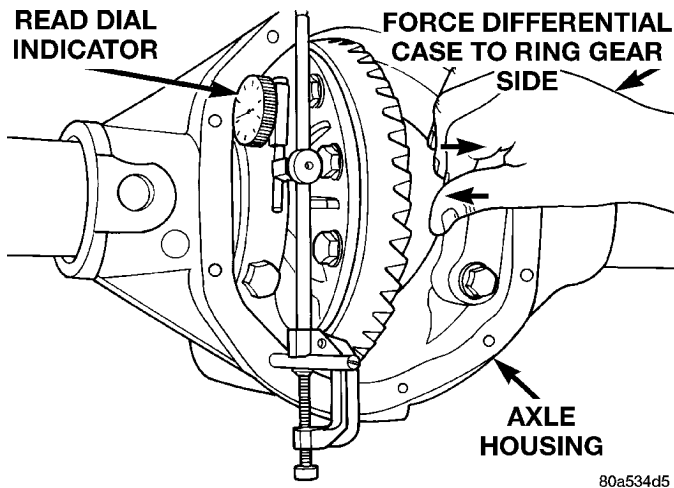

Fig. 73 Hold Differential Case and Read Dial Indicator
(12) Push and hold differential case to ring gear side of the axle housing (Fig. 73).
(13) Record dial indicator reading (Fig. 73).
(14) Add 0.008 in. (0.2 mm) to the zero end play total. This new total represents the thickness of shims to compress, or preload the new bearings when the differential is installed.